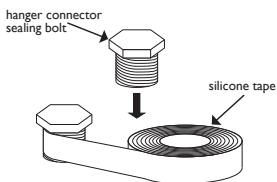

Fig. 4.5
12. If applicable; use silicon tape to thoroughly wrap and seal the hanger connector sealing bolt (fig. 4.5). For hanger connector sealing bolts equipped with an o-ring or gasket, silicone tape is not needed.